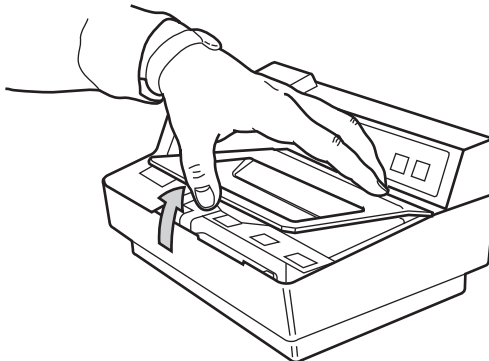

Figure 40
1. Remove the paper access cover by pulling up on the front edge. See *Figure 40*.